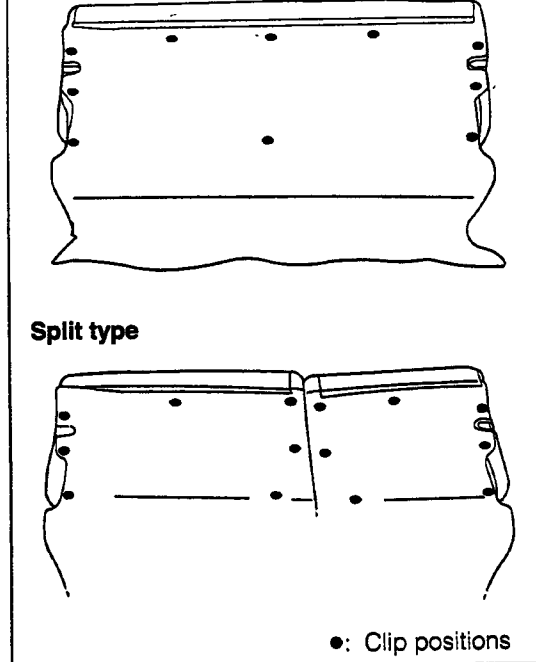

Fig. 9-340
3. Install the deck carpet on the rear seatback assembly with the clips. (See Fig. 9-340.)